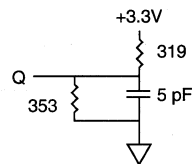

Fig. 2 OUTPUT LOAD EQUIVALENT
6. Output loading is specified with C_L = 5pF as in Fig. 2. Transition is measured ±200mV from steady state voltage.